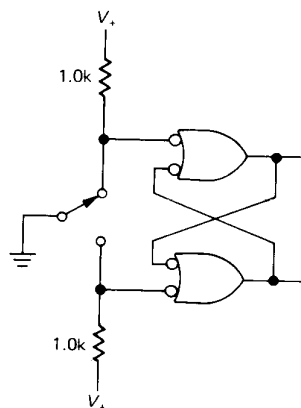

Figure 9.8. Switch debouncer: SR flip-flop.
1. Use a pair of gates to make a jam-type *SR* flip-flop. Use **pullups** at the inputs to the debouncer, of course (Fig. 9.8). You could use a flip-flop with SET and CLEAR inputs instead (e.g., a '74); in that case, ground the clocking input.